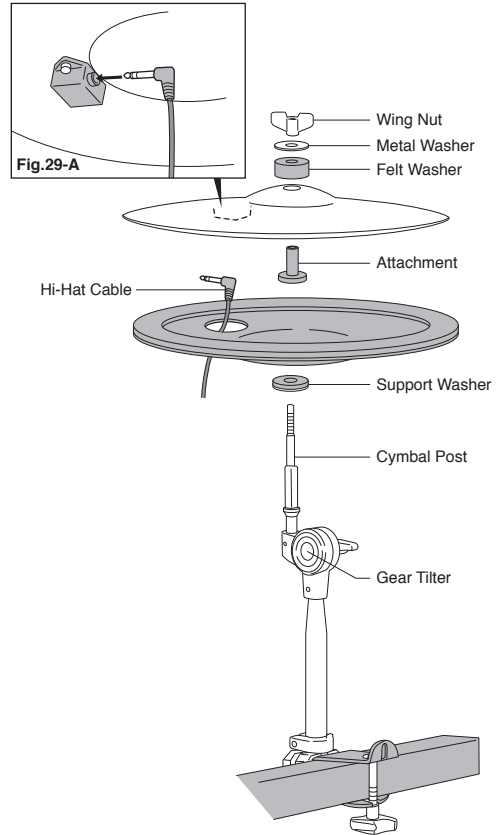

Fig.29
2. Place the Bottom Plastic Cymbal on the Support Washer as shown and reattach the Attachment in the order shown (Fig. 29).
3. Pass the Hi-Hat Cable through the hole in the Bottom Plastic Cymbal as shown (Fig. 29) and plug it into the Jack under the Brass Hi-Hat Cymbal as shown (Fig. 29-A).
4. Assemble the Brass Hi-Hat Cymbal, Felt Washer, Metal Washer, and Wing Nut in the order shown (Fig. 29).